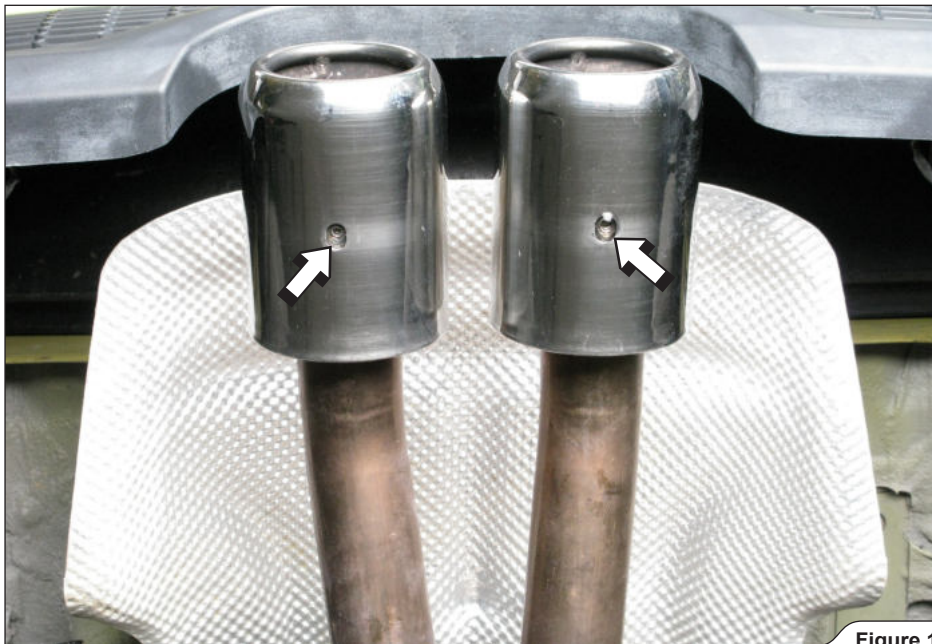

Figure 1
1. **For Tail Pipes only:** unscrew the marked bolts and remove the original tail pipes off the vehicle (Figure 1).